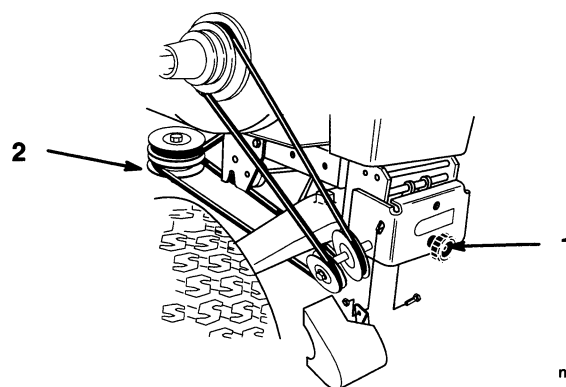

Figure 15
3. Turn knob on idler assembly clockwise to loosen belt. Remove belt from lower mower pulley (Fig. 15).